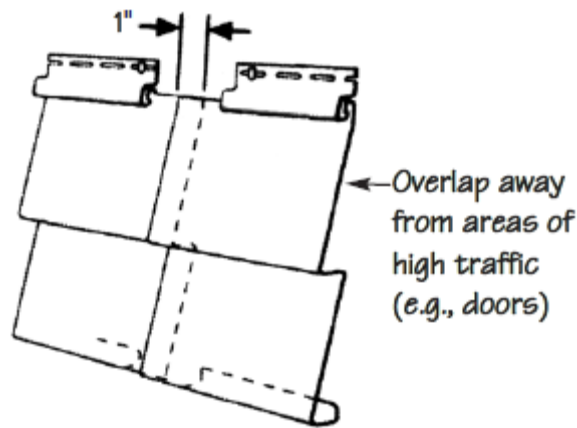

Figure 11-7. Siding Overlap.
2. Install every piece with a 1" overlap between pieces, and a $\frac{1}{4}$ " gap at the corners (to allow for expansion) and ends of pieces, including corner posts, J-channel, windows, J-blocks, etc. (see Figure 11-7). Overlap the siding pieces such that in high traffic areas, one cannot see into the overlapped joint.